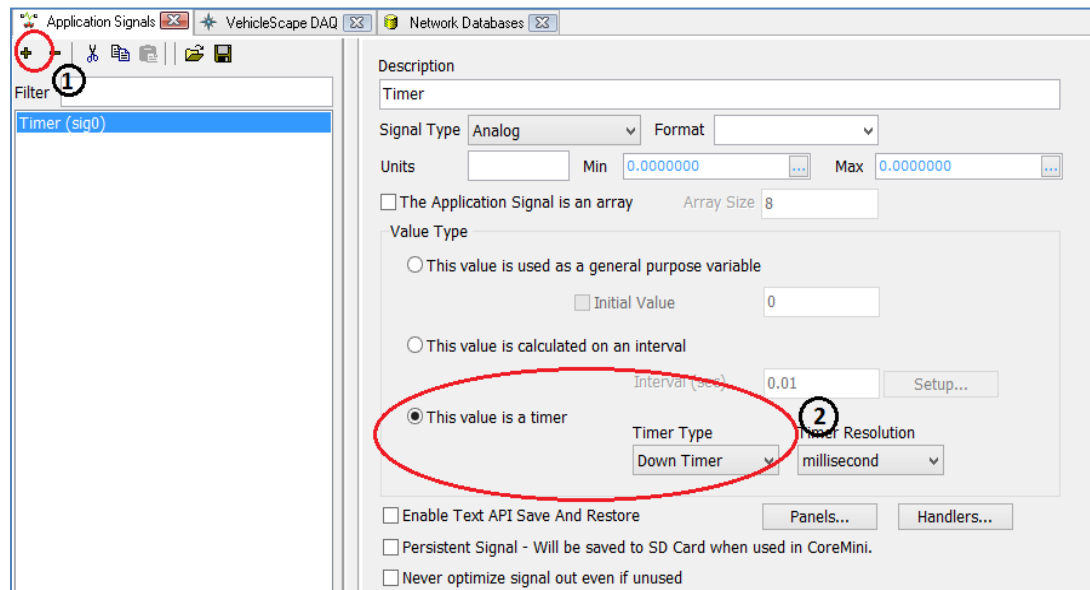

Figure 4: Application signal setting as a Down timer
- Click on '+' button (Figure 4 (1)). It will create new application signal.
- Select 'This value is timer' (Figure 4 (2)).